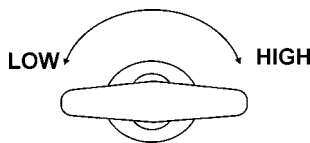

Figure 68. Engine Throttle Control
2. Place the throttle control (Figure 68) in the "LOW" position.